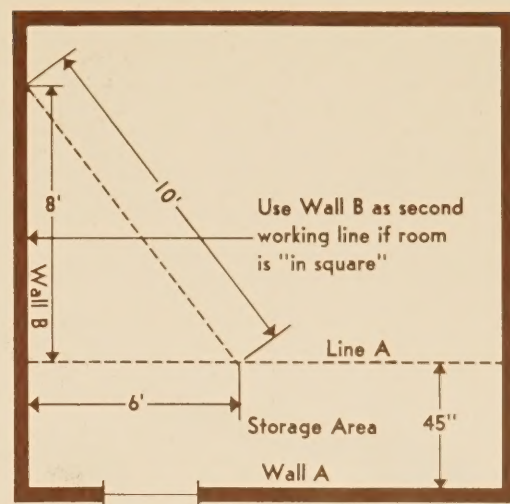

FIG. 2
Step 2: (See Fig. 2) Wall B can serve as a second working line provided the room is "in square" — that is, Wall B and line A form a right angle. Unfortunately this is not often the case. Check alignment of the walls as follows: